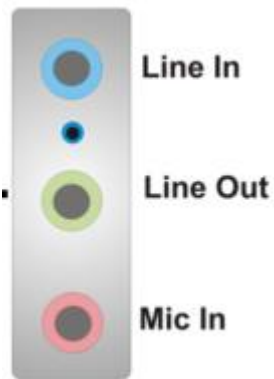

Figure 4-30: Audio jack Connector Location
- CN Location:** See **Figure 4-30**